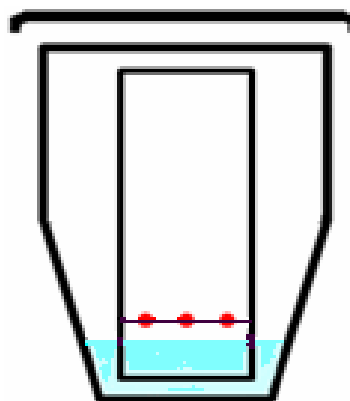

Fig. 3.2 TLC plate placed in the TLC developing chamber.
- iv) Develop TLC plate in the TLC chamber with the eluent. Mark the solvent front with the pencil (Fig. 3.2).